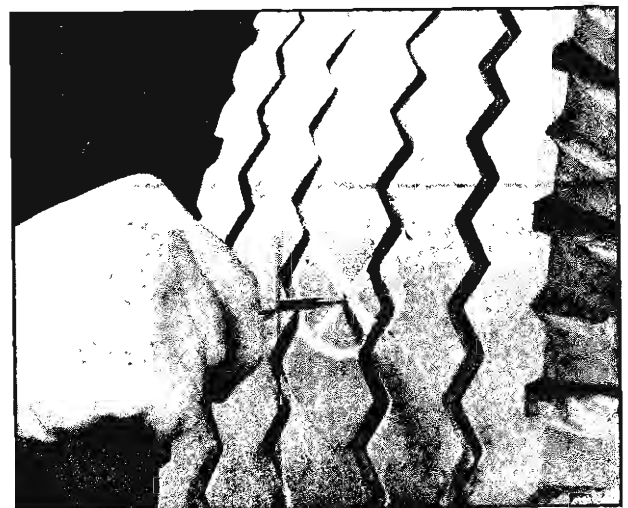

Fig. 35—Cleaning Hole with Awl
1. Clean out the injury with an awl or hand rasp furnished with the tire repair kit (fig. 35).